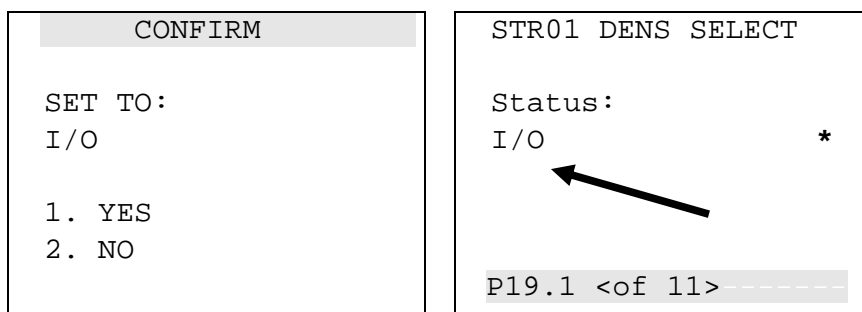

Figure 5-11. Changing a Display Option
3. Press a numeric key to select a value. The left-hand screen in *Figure 5-11* displays.
4. Press a numeric key to confirm the selected value. The right-hand screen in *Figure 5-11* displays, showing the new value.